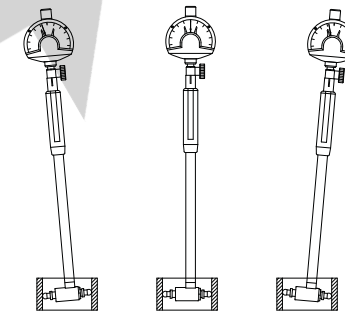

fig.1
4. Use standard setting ring to set zero (fig.1). This has to be done with the centring plate at a slight angle. The gage should be set in the same position as it will be used afterwards. When the gage is slowly rocked around the fixed ball insert, a reversal point will appear on the display of the dial gauge. The reversal point can be identified by a change of direction of the indicator pointer.